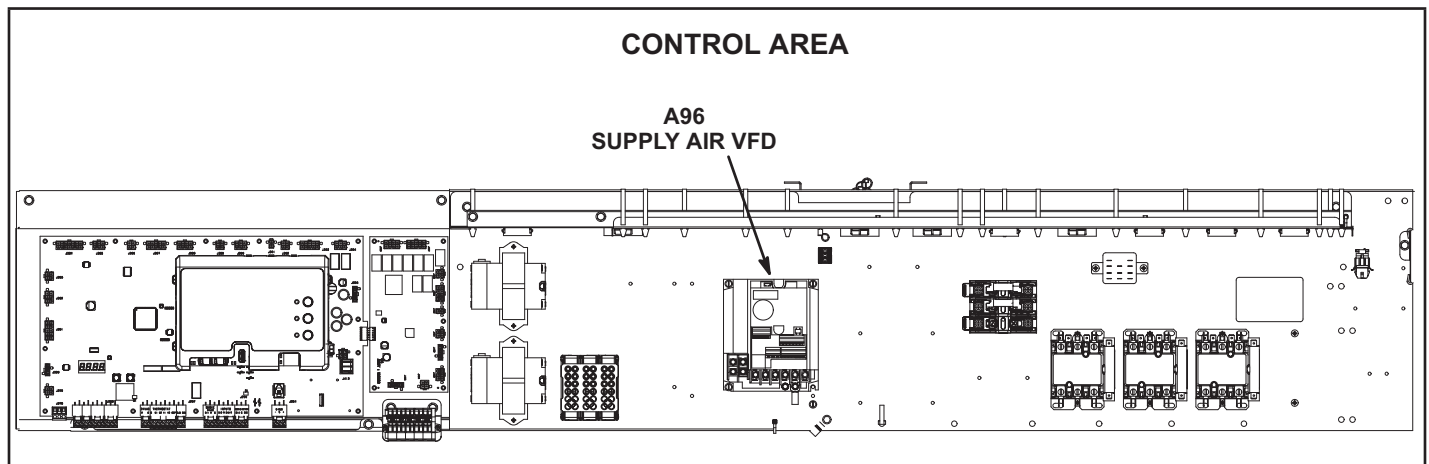

FIGURE 45
Units contain a supply air blower equipped with a variable frequency drive A96 (VFD) which varies supply air CFM. The supply air VFD (A96) is located in the control area. See FIGURE 45.
- 4 - Locate the A55 Unit Controller. Refer to FIGURE 45.